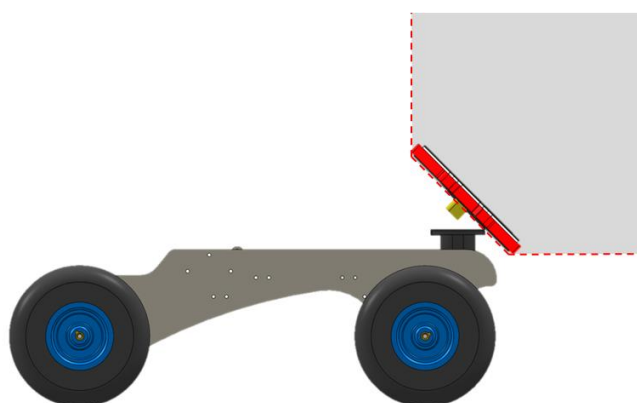

Fig 4-2 Health Bar Installation
b. Blocking the health bar: During the match, attacking mechanism, wheel, or other mechanisms must not block the health bar in any way, as shown in Fig 4-2.